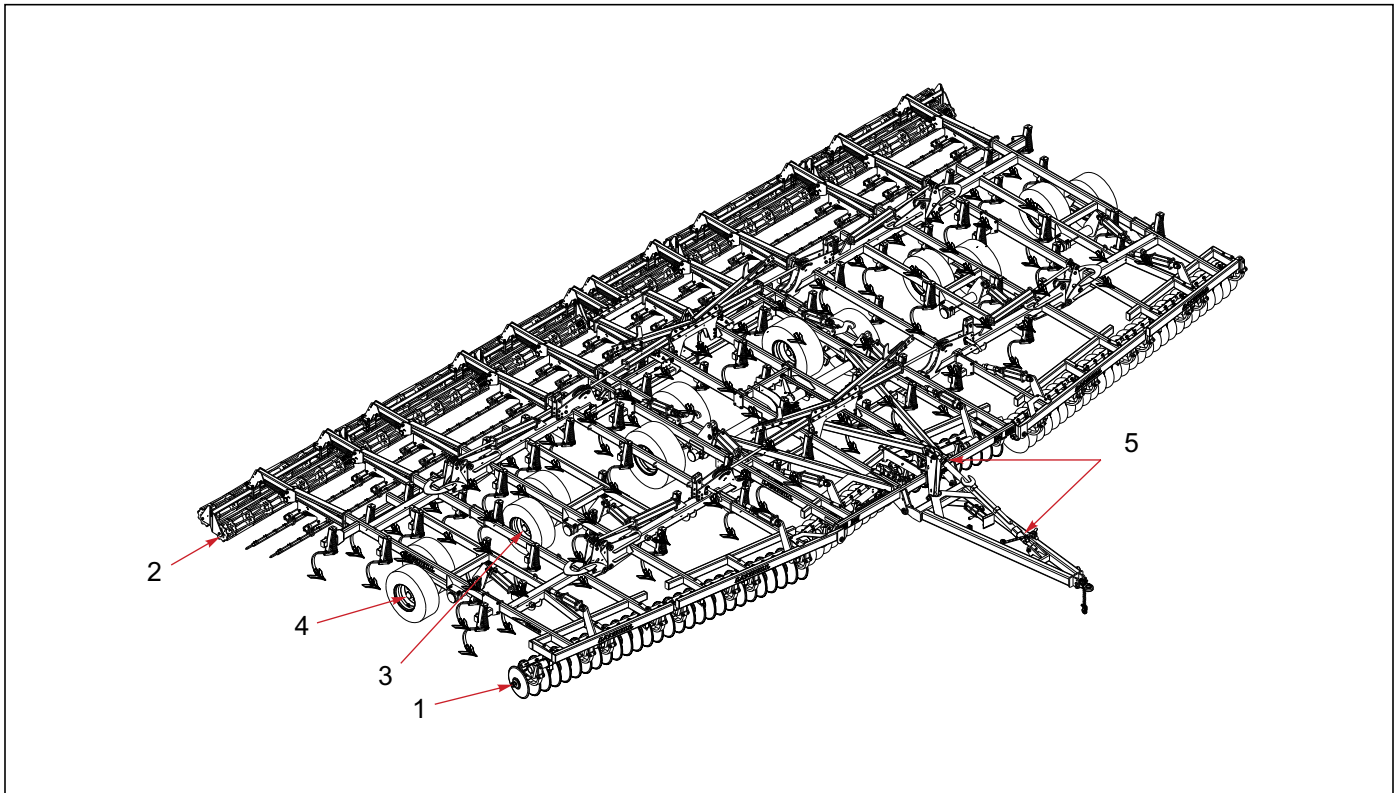

Figure 4-19: Lubrication Schedule
1. A proper maintenance schedule will insure a long operating life and peak performance. Performing the following lubrication will ensure maximum operating life of the Finisholl (**See Table 4-1 and Figure 4-19.**)